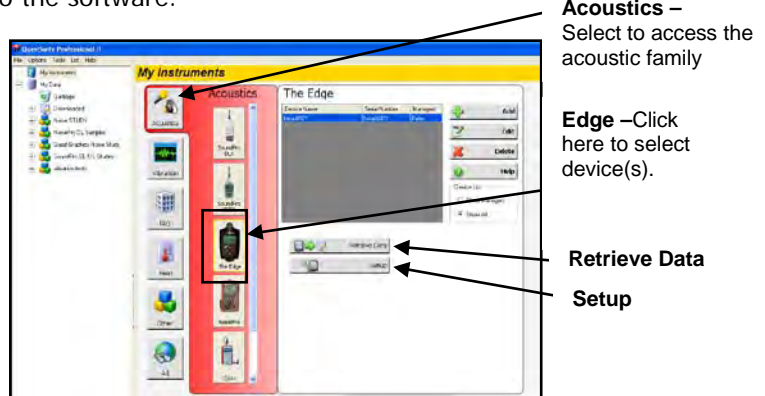

Figure 3-1: Edge setup and retrieve data buttons in QSP-II
2. From the welcome screen of QSP-II, select the **Edge** and click on **Setup button**  (see Figure 3-1, page 17).